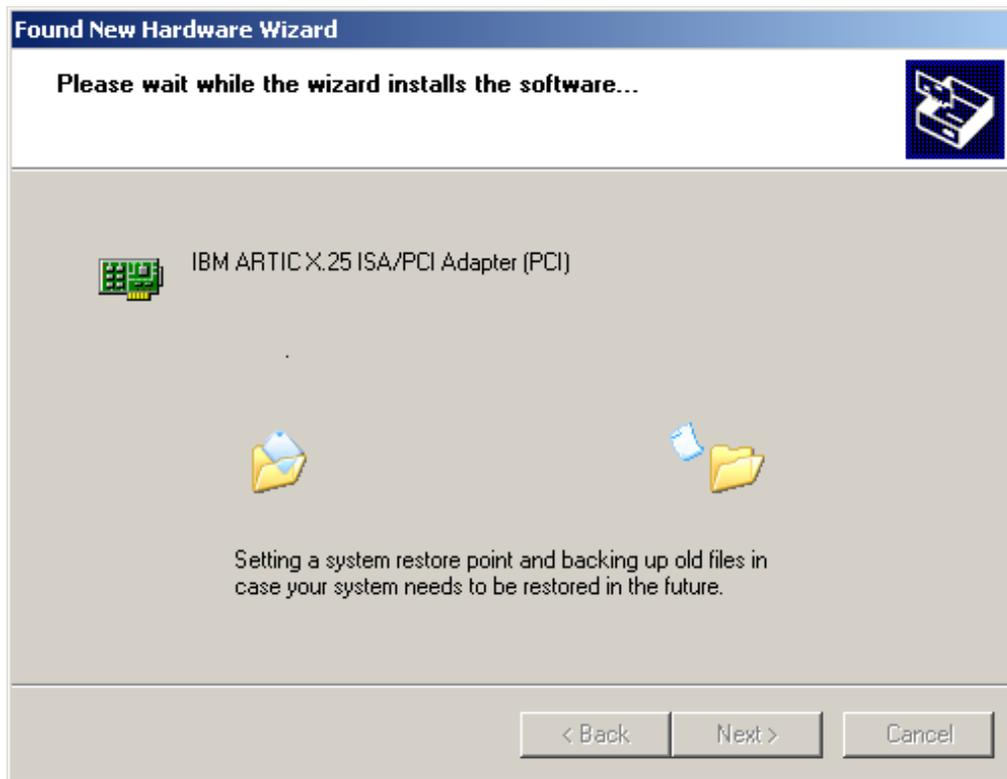

FIGURE 187. Hardware Wizard installation in process
12. The wizard will display the screen shown in Figure 187 as it installs the proper driver files.